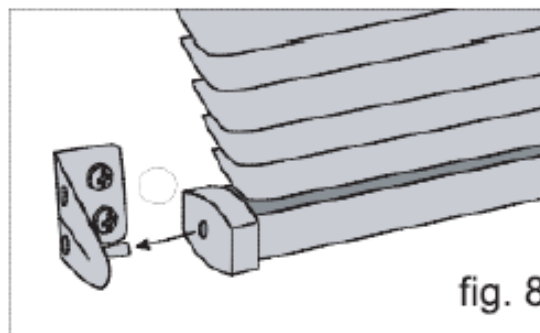

fig. 8
6. Using the Short Screws (H) provided, affix the Hold Down Brackets (F) The hole on the end of the bottom rail fits into the Hold Down Bracket at the end of the window. See figures 8 and 9.